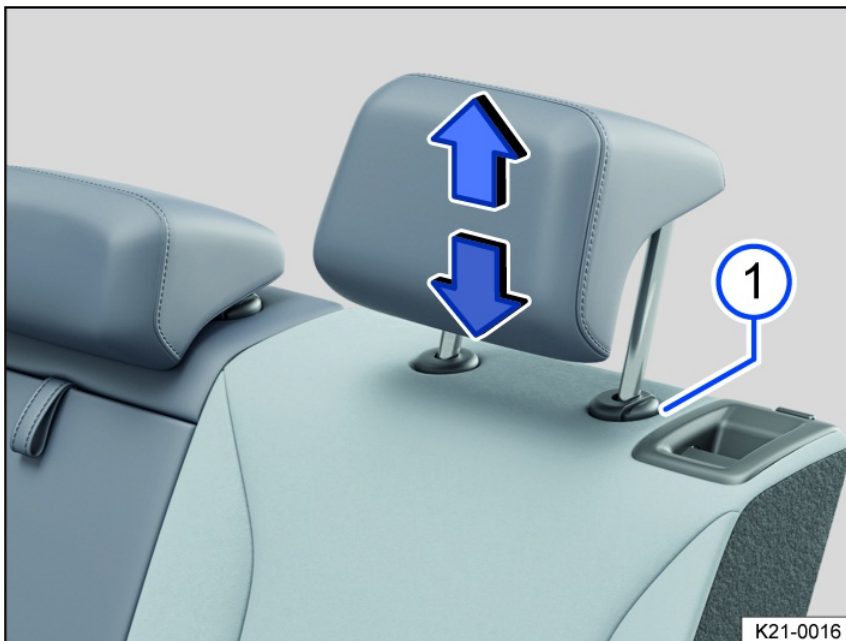

Fig. 83 General example: adjusting the head restraint on the second-row seats.
1. Push the head restraint upward in the direction of the arrow or slide it downward while pressing the *fig. 83* button.